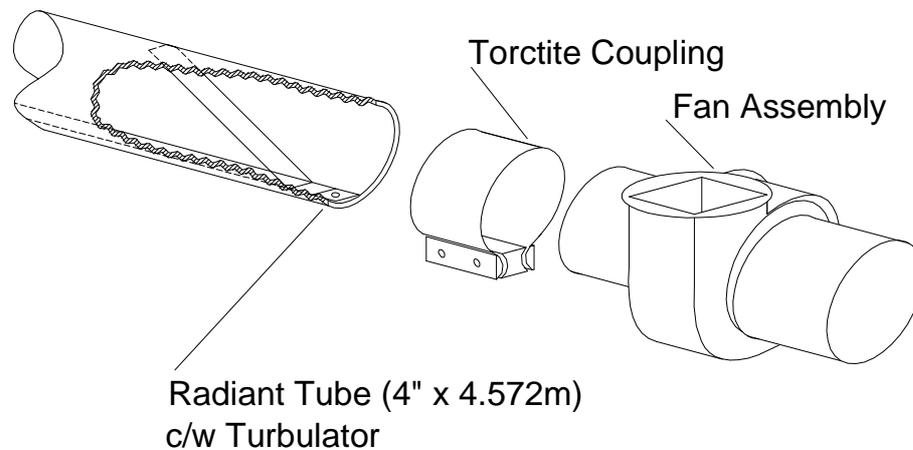

Fig 23
IMPORTANT: ensure that the turbulator is positioned adjacent to the Fan Assembly and orientated as shown in Fig. 23. Failure to assemble the Radiant Tubes with their welded seams facing away from the reflector will void the manufacturers warranty.
- 4.7.4 Place a second Torctite Coupling over the end of the Radiant Tube Assembly at the end where the turbulator is secured to the tube, (see Fig. 22 and Fig. 23) ensuring that it engages fully up to the stop. Assemble the Fan Assembly to the Radiant Tube, ensuring that it engages fully into the Torctite Coupling (up to the stop) and is positioned with the fan outlet horizontal for flueless applications or either horizontal or vertical (facing upwards) for flues applications. Tighten the nuts of the Torctite Coupling to secure the Fan Assembly to the Radiant Tube, taking care to support the Fan Assembly in line with the axis of the tube.
- 4.7.6 Place the third Torctite Coupling over the open end of one Radiant Tube ensuring that it engages fully, up to the stop. Assemble the second Radiant Tube into the Torctite Coupling ensuring that it engages fully, up to the stop with the Hanger Brackets aligned with those of the first Radiant Tube section (see Fig. 23). Tighten the nuts of the Torctite Coupling to secure the two sections of Radiant Tube to one another, taking care to maintain the tubes in a straight line.